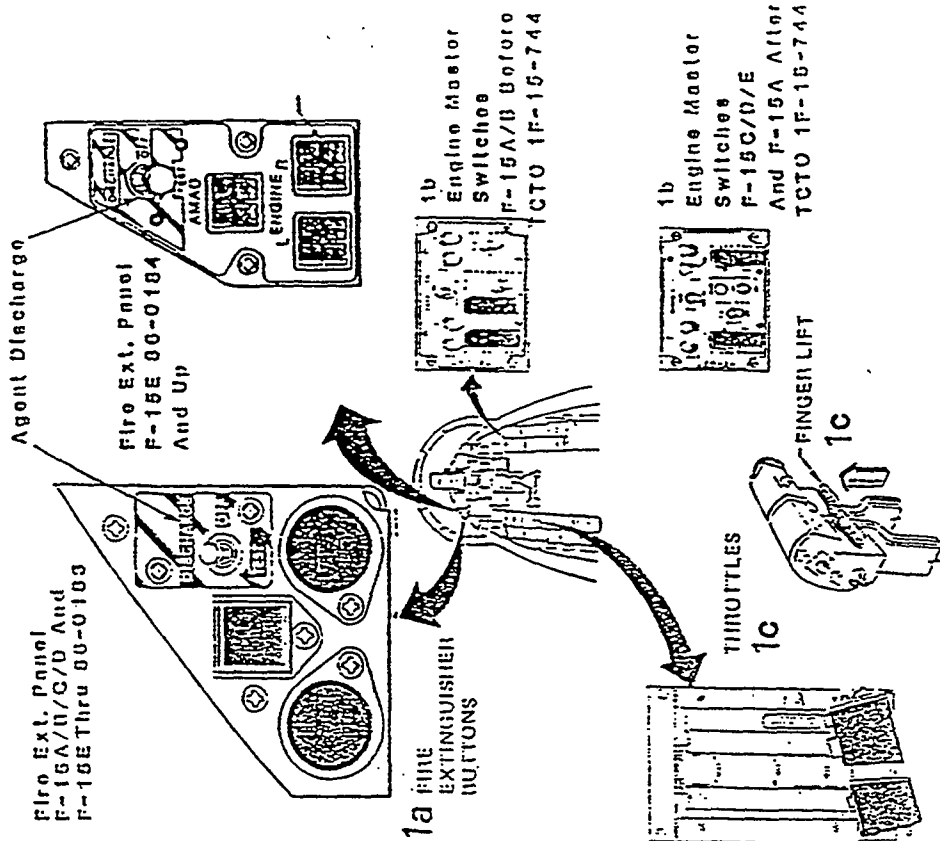

FIGURE 4. Example of engine shutdown procedures.
10.3.7 Cockpit or flight deck. Illustrations and information for the cockpit or flight deck including controls for engine and APU shutdown (see Figure 4).